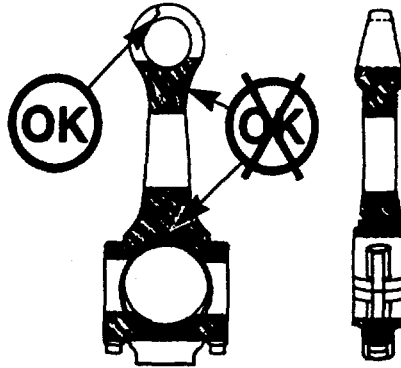

FIGURE 4-69. Connecting Rod Inspection.
- (13) Replace connecting rod if any indications are visible in the shaded areas shown in FIG. 4-69.